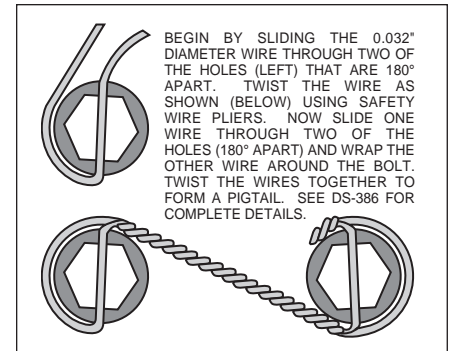

Figure 3. Safety Wire Diagram
- The flat spindle/caliper mounting bracket (1) should be installed first with clean, dry threads on the mounting bolts. Install the bracket on the back side of the spindle by sliding bolt (2) through the bracket (1) and into the upper hole of the spindle upright boss. Torque bolt (2) to 140 ft-lb. Slide bolt (3) through lower spindle “ear”, through the bracket (1), washer (4), and secure with nut (5). Torque bolt (3) to 77 ft-lb. The bracket must tighten squarely against the side of the spindle body. Inspect for interference from casting irregularities, machining ridges, burrs, etc.
- With the larger I.D. side of the rotor (6) facing away from the hat (7), bolt rotor (6) to hat (7) through the backside of the rotor using bolts (9), and washers (8). Using an alternating sequence, apply red *Loctite*® 271 to the threads and torque bolts to 155 in-lb. For an added measure of security, the bolts may be safety wired using standard 0.032 inch diameter stainless steel safety wire as shown in Figure 3. Please refer to Wilwood’s data sheet DS-386 for complete safety wire installation instructions.